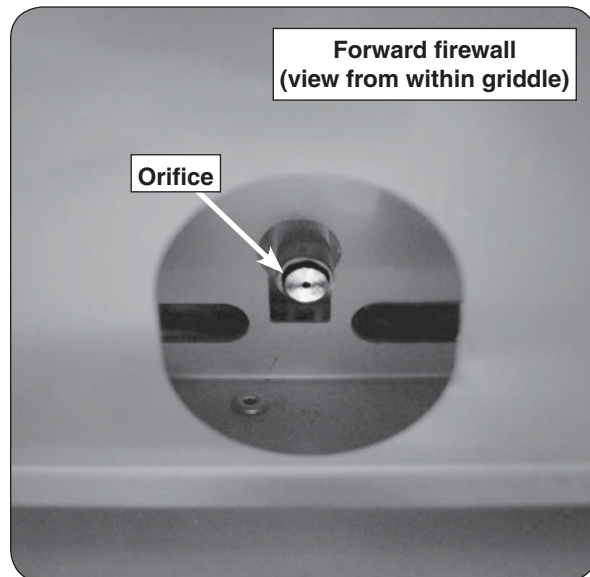

Fig. 35-1 Orifice conversion
3. Use a $\frac{3}{8}$ " hex nut driver to remove the exposed orifices (Fig. 35-1). Check orifices. If needed, replace them with the correct orifices for the new gas.